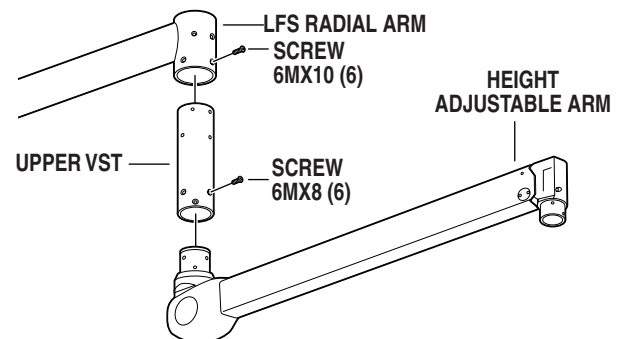

Figure 11.
d. Install the Height Adjustable Arm in the Upper VST and secure with (6) M6 x 8 screws. See figure 11.